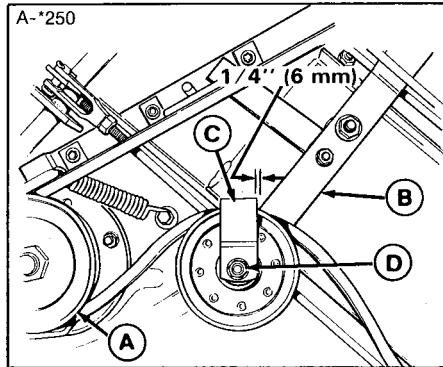
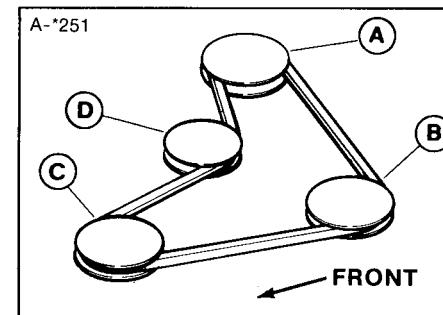

Figure 25. Mower Belt Replacement
Figure 26. Mower Belt Pattern - 36"
2. Loosen the belt guide (C, figure 25) on the idler pulley.
3. Move idler arm (B) toward rear of mower deck to release blade brakes.
5. Install the new belt on the pulleys as shown in figure 26.
7. Reposition the belt guide on the idler pulley (figure 25). Before tightening the nut (D), position the belt guide so it is $1/4$ inch (6 mm) behind the idler arm (B) when viewed from above (figure 25). Hold the belt guide when tightening nut.